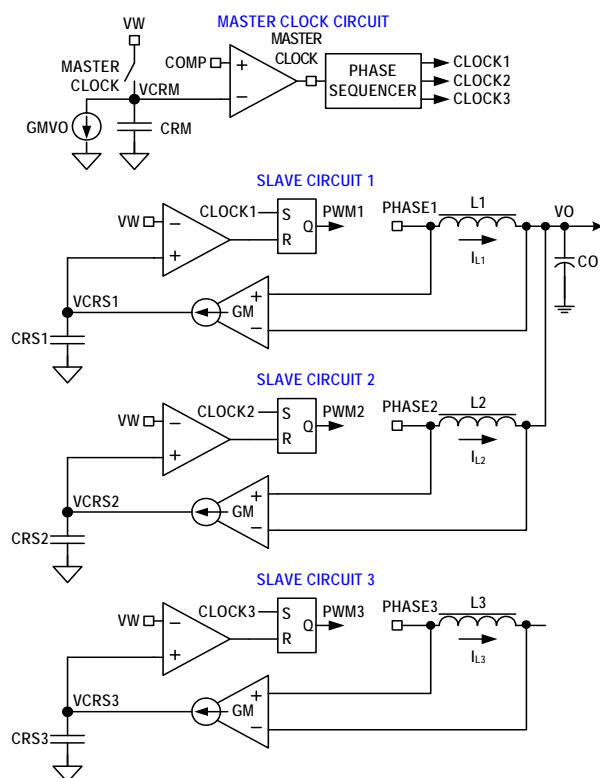
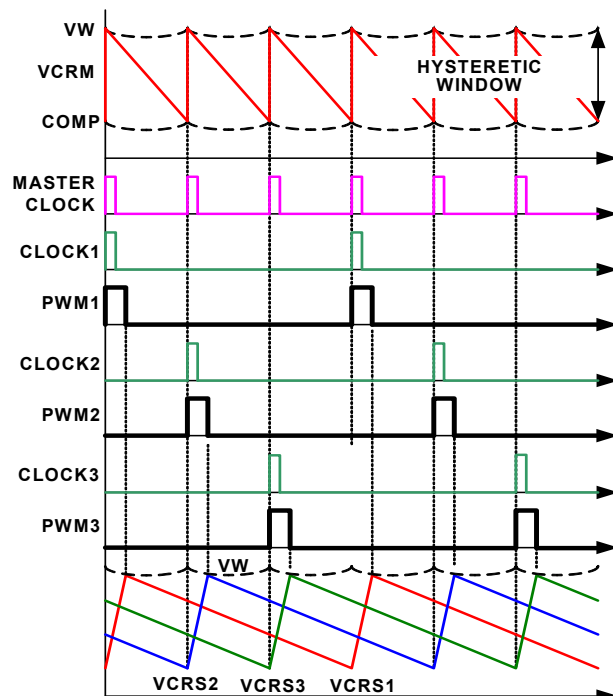

FIGURE 8. R3™ MODULATOR CIRCUIT
FIGURE 9. R3™ MODULATOR OPERATION PRINCIPLES IN STEADY STATE
The ISL6277A is a multiphase regulator implementing two voltage regulators, CORE VR and Northbridge (NB) VR, on one chip controlled by AMD's SVI2 protocol. The CORE VR can be programmed for 1-, 2- or 3-phase operation. The Northbridge VR can be configured for 1- or 2-phase operation. Both regulators use the Intersil patented R3™ (Robust Ripple Regulator) modulator. The R3™ modulator combines the best features of fixed frequency PWM and hysteretic PWM while eliminating many of their shortcomings. Figure 8 conceptually shows the multiphase R3™ modulator circuit, and Figure 9 shows the operation principles.